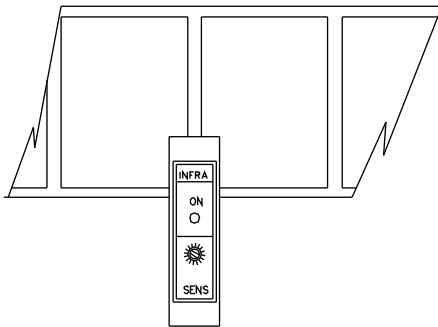

fig. 9
- put in the reading zone of photocell the space that is between two labels (fig. 9);